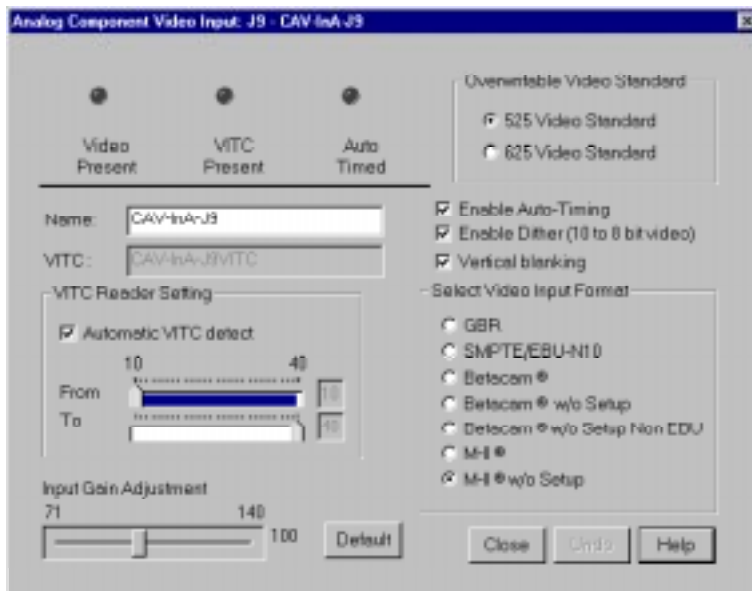

Figure 18. Component Analog Video Input dialog box (CAV)
1. Select **Video Input** from the configuration tree, and then click or double-click an analog component input from the list, such as *CAV-InA-J9*. The Analog Component Video Input (CAV) dialog box (Figure 18).